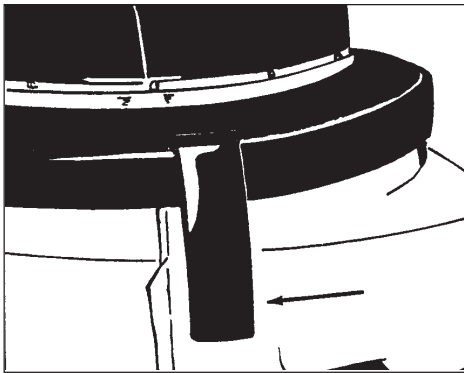

Figure 8
1. Lift the clamps on each side of the machine. See Figure 8.